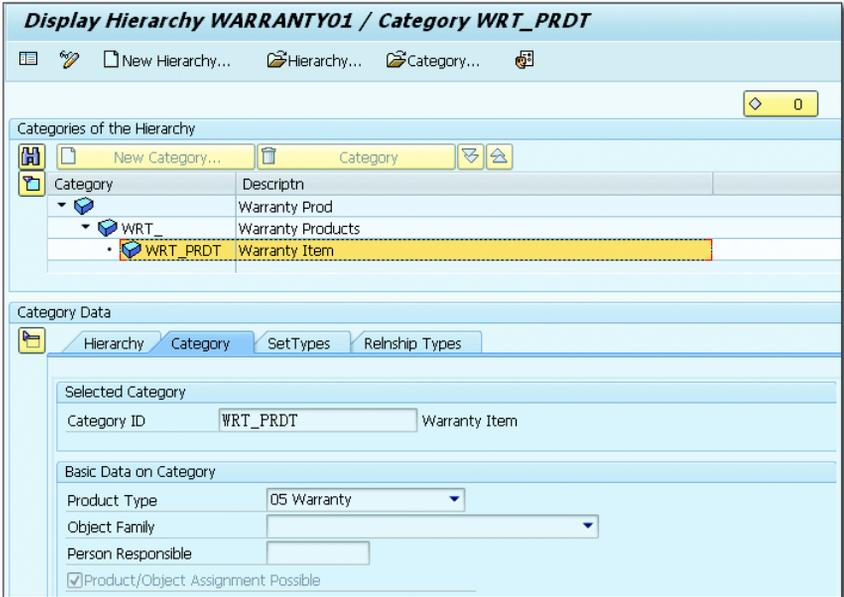

Figure 7.26 Warranty Hierarchy
1. In this step, the warranty hierarchy is created prior to creating any warranty products in SAP CRM. Access COMM_HIERARCHY to create the warranty hierarchy WARRANTY01 and warranty CATEGORY ID WRT_PRDT, as shown in Figure 7.26. Here, the PRODUCT TYPE is 05 WARRANTY.